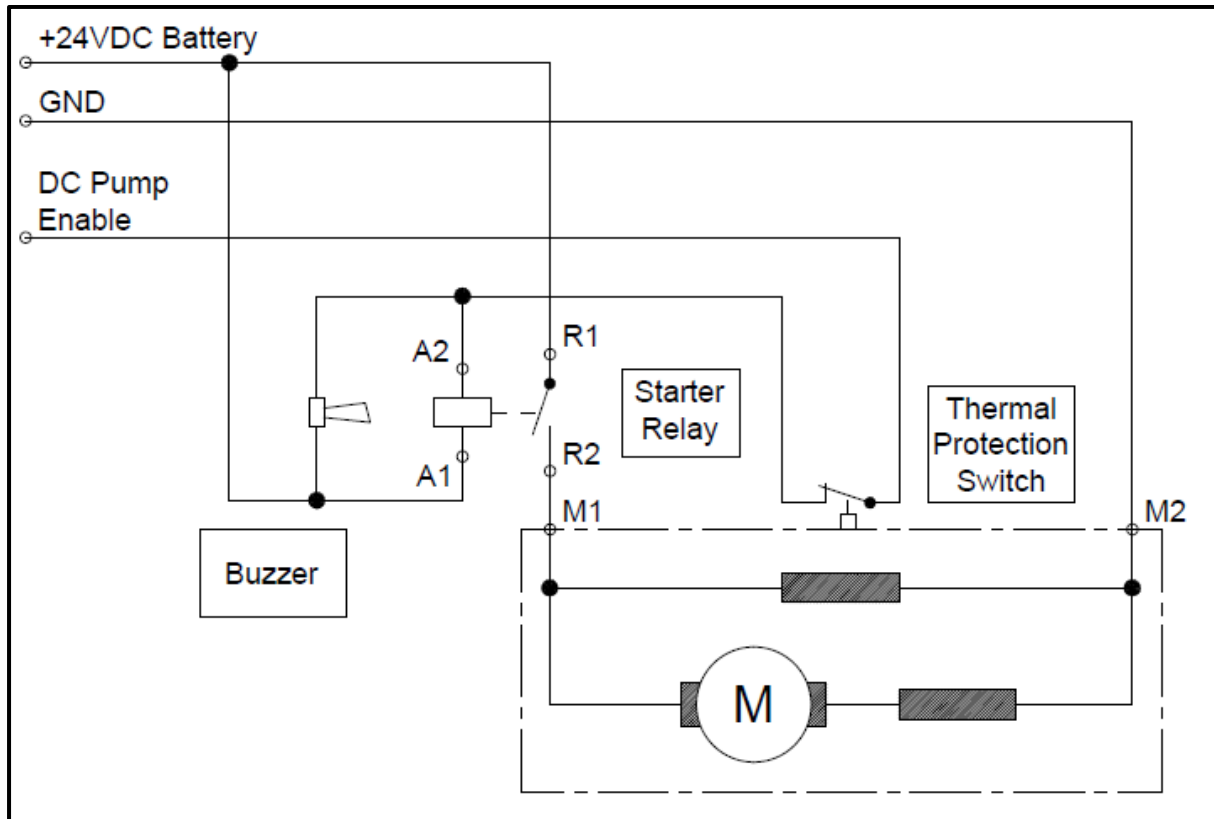

Figure 6: Circuit illustration of Alternative DC Pump wiring (TF Pre-EN280 series MEWPs)
- b. Connect the buzzer wiring across terminals A1 and A2. Refer to Figure 6 circuit illustration.